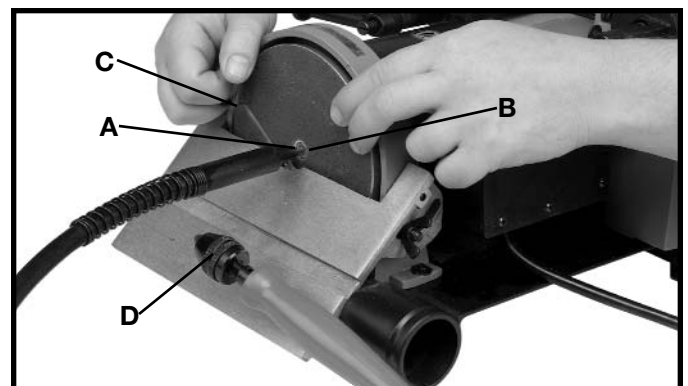

Fig. 29
4. Insert the threaded end (A) of the flexible shaft into the power take off shaft (B) as shown in Fig. 29, and tighten securley with pin (C). Remove pin (C) once flexabel shaft is attached securley to the power take off shaft.
5. Insert an approved attachment into the keyless chuck (D) on the flexible shaft and tighten securley.